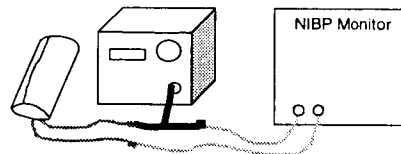

Fig. 1
5. **For dynamic NIBP testing,** connect the SimCube in line with the monitor's cuff and hose as shown in Fig. 1. Different monitors will require different adapters. A variety of adapters are available from Pronk Technologies and each SimCube comes equipped with at least one adapter. In Neo mode use a neo cuff. Wrap cuff snugly around itself and place in area safe from accidental motion. Using a SimCube Cuff Jacket can improve reading capture and consistency. To use Cuff Jacket, wrap cuff as above and insert into the desired sleeve volume. Generally the smaller volume is best for most monitors.